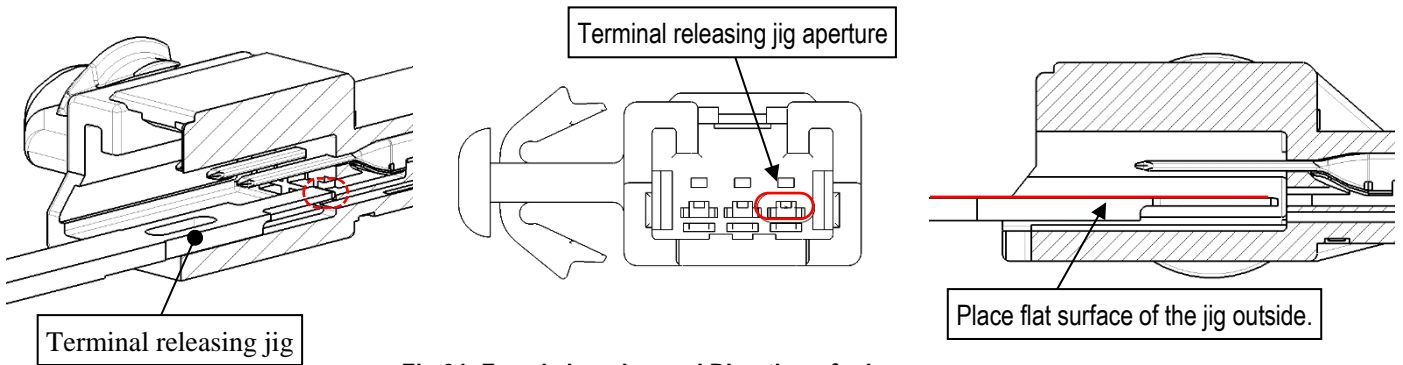

Fig 31. Female housing and Direction of release
- ① Ensure that the secondary lock part have been removed.
- ② Hold the wire and push in the terminal lightly. Place the terminal releasing jig into the releasing apertures of the housing (see Figs. 31).